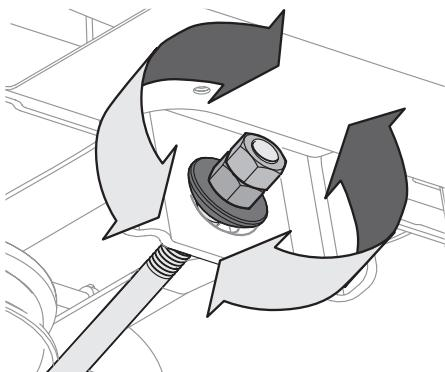

Figure 29
4. To raise the front of the deck, loosen the outer nut then tighten (thread inward) the inner nut against the front hanger bracket. See Figure 29. When proper adjustment is achieved, re-tighten the outer nut to 25-30 ft.-lbs (34-40.7 N-m).
5. To lower the front of the deck, loosen the outer nut then loosen (thread outward) the inner nut, away from the front hanger bracket. See Figure 29. When proper adjustment is achieved, re-tighten the outer nut.